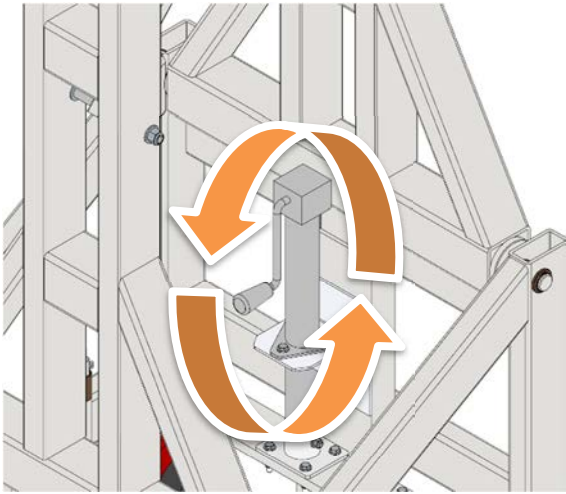

Figure 9-1: Operate jack to lower wheels.
1. Lower wheels (see Figure 9-1) until the feet are off floor and high enough to be clear of any potential obstacles, such as thresholds.